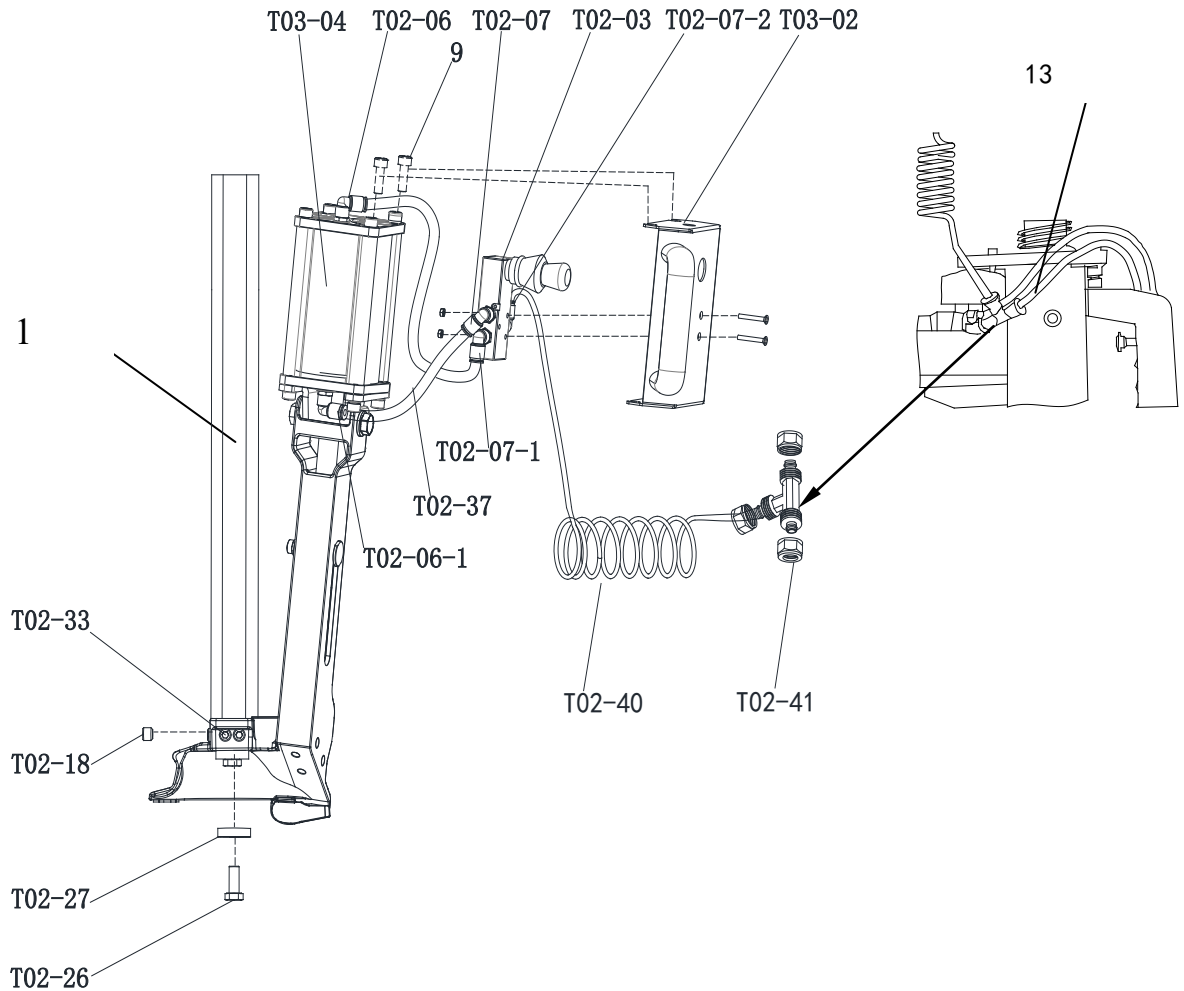

Fig.16
11.3.4. Assembling (Refer to Fig.16)